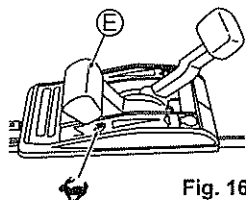

Fig. 16.
2 Set Throttle lever (E) to "🏠" to start mowing. (See Fig. 16.)